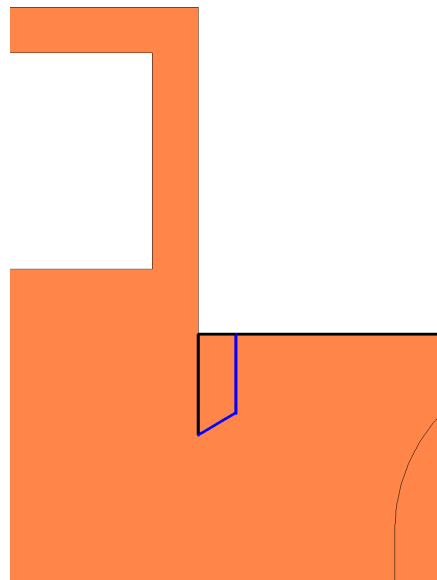

Fig. 88
Step 6. Sketch the **3 lines**, **Fig. 88**.